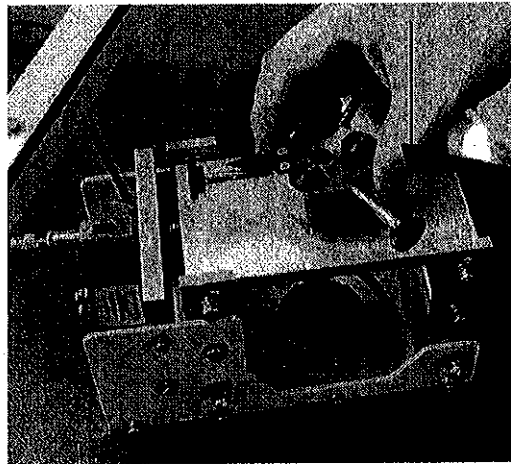

Figure 10 Fit the Model Clamp to the Balance Assembly
2. Remove the balance assembly from the triangular back plate (if necessary). Fit the model clamp (if necessary) (see Figure 10). The model clamp is supplied with the AF100 wind tunnel.